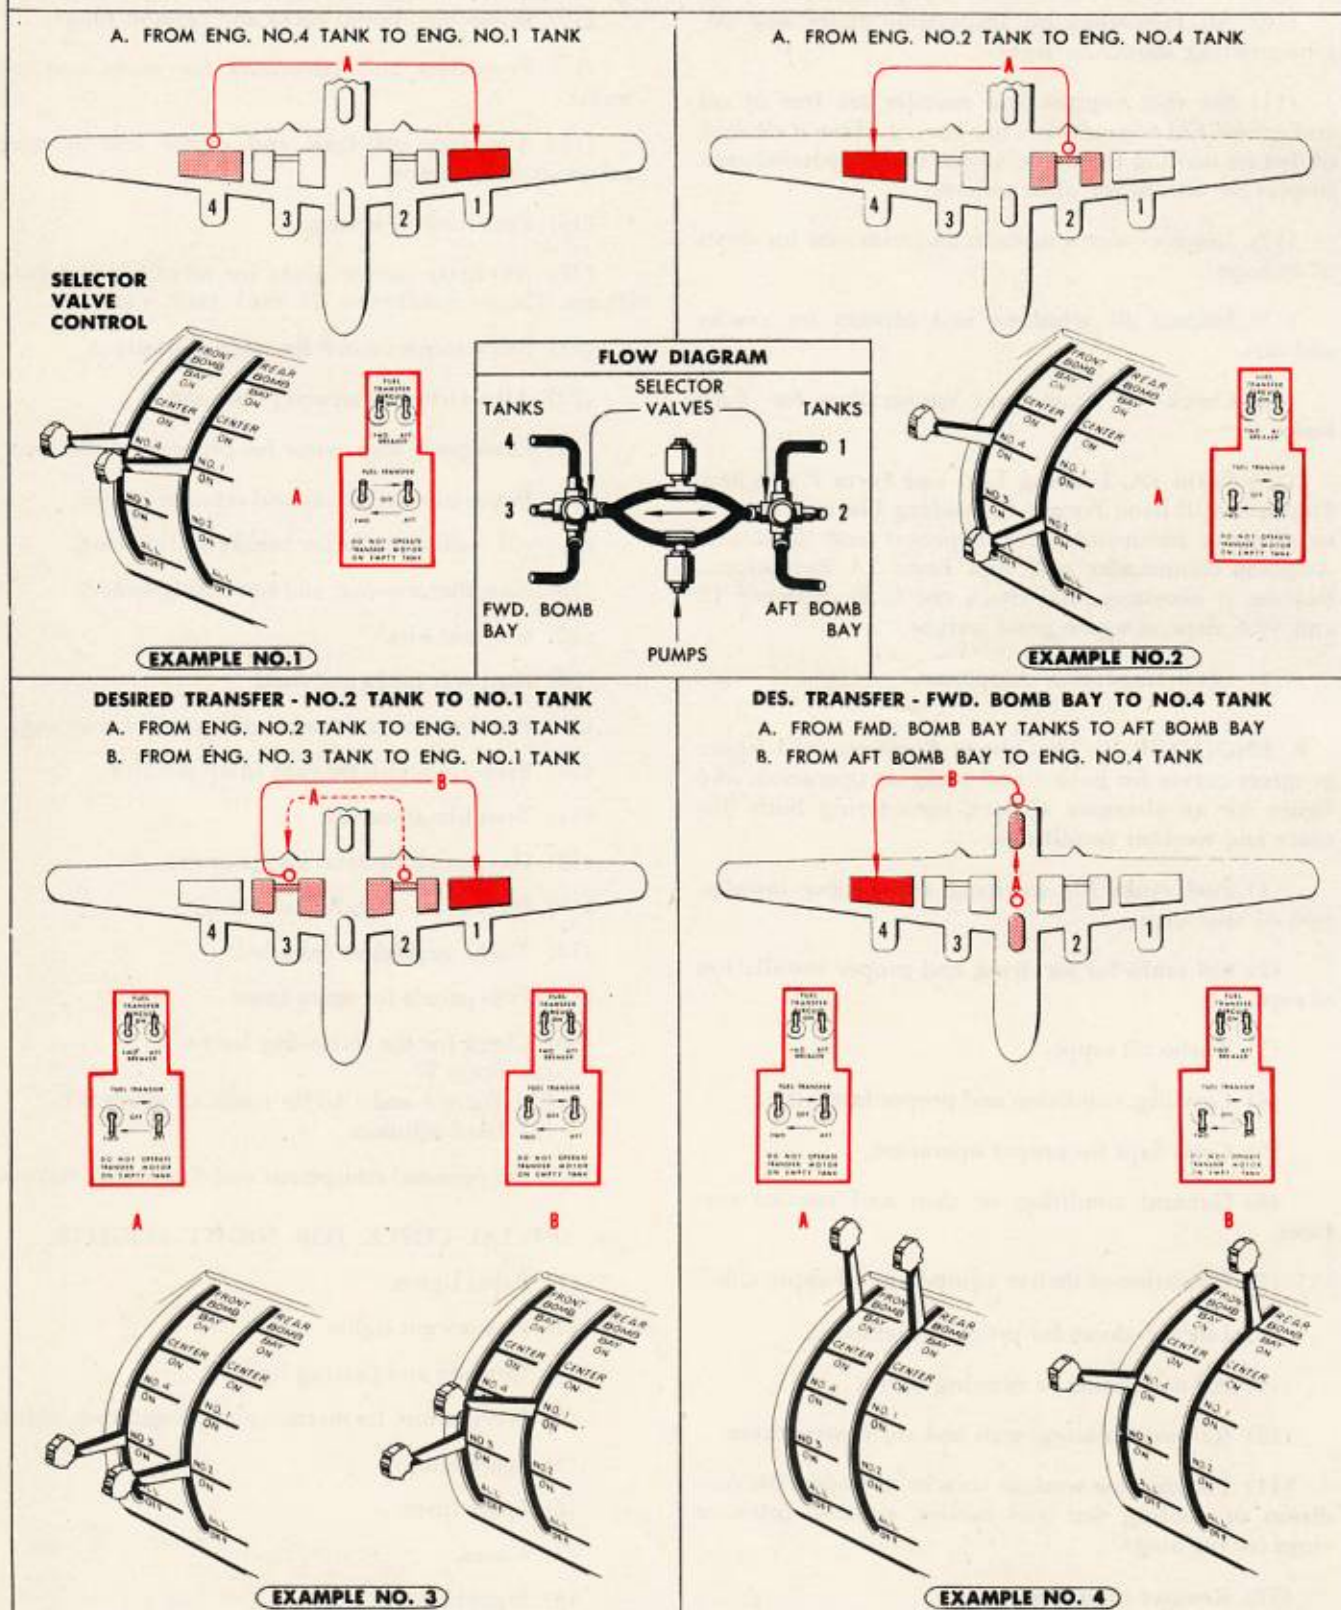

Figure 24—Fuel Transfer Operation Diagram (Airplanes Without Center Tanks)
a. GENERAL. — Fuel can be transferred between rear and front bomb bay tanks, rear bomb bay tanks and tanks 3 or 4, front bomb bay tanks and tanks 1 or 2, and across the airplane centerline from tanks 1 or 2 to either 3 or 4. Fuel can be transferred from wing center section tanks to any wing tanks. On early airplanes, fuel cannot be transferred from wing tanks to bomb bay tanks. On late airplanes, the upper bomb bay fuel valve switch on the engineer's switch panel must be "ON" to transfer fuel to the bomb bay tanks. See Figures 24 and 25 for detailed fuel transfer instructions. See Section I, paragraph 7 g for trapped unavailable fuel quantities.